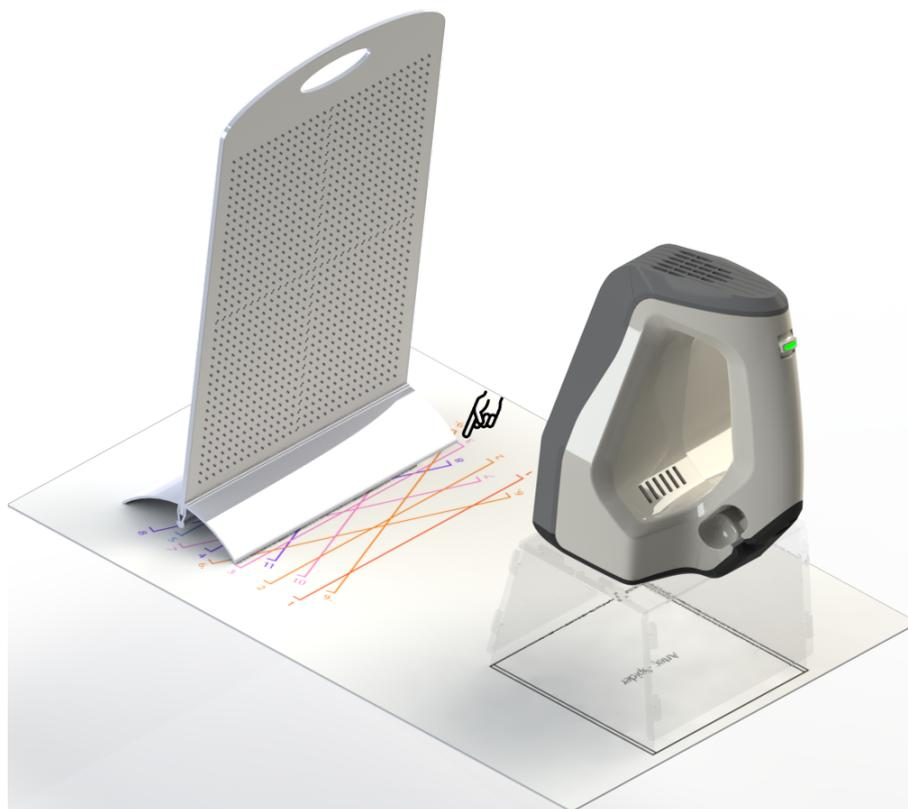

Figure 135: Calibration rig, pattern and scanner stand with Artec Spider.
4. Set the calibration rig on the pattern, turning its marker side toward the scanner as Figure 135 shows.